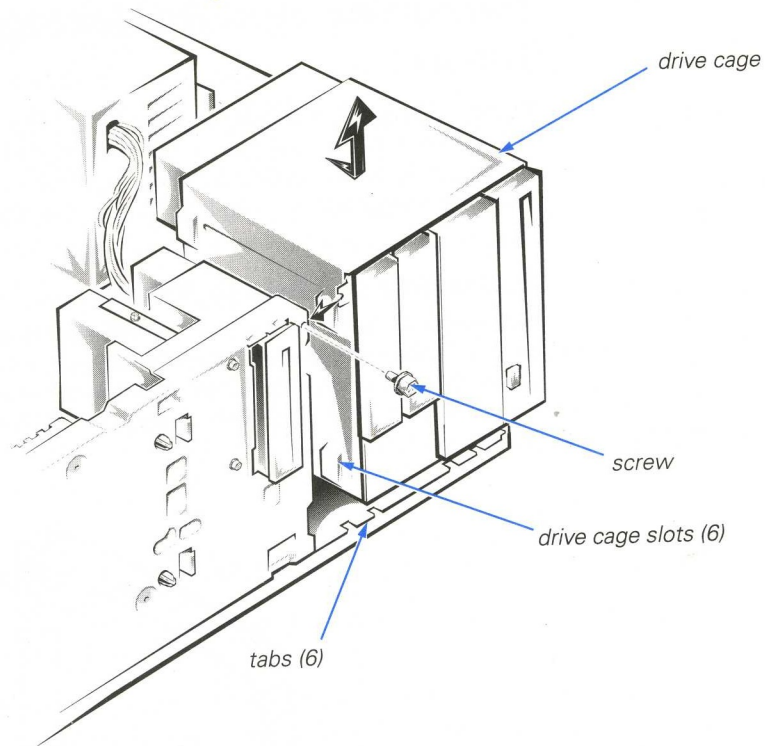

**Figure 3-2. Removing the Drive Cage**
The drive cage (see Figure 3-2) holds the externally accessible drives except for the standard 3.5-inch diskette drive. It holds up to two half-height, 5.25-inch devices and two 3.5-inch devices in the mini tower chassis. In the desktop chassis, it holds up to two half-height, 5.25-inch devices and one 3.5-inch device. The drive cage must be removed to install a drive in one of its bays.
3. Remove the screw at the side of the drive cage (see Figure 3-2).